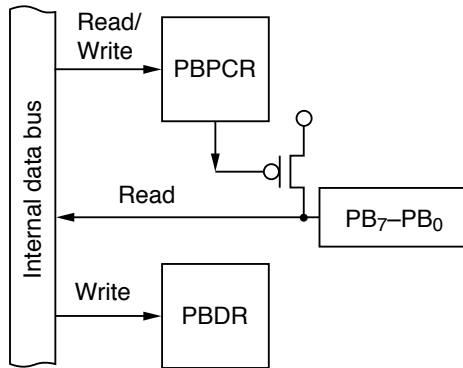

Figure 9-74 Input Port with Built-In Pull-Up Transistors (Mode 7)
(2) Input Port with Internal Pull-Up (All Pins: Mode 7): Figure 9-74 shows a block diagram illustrating the general-purpose input function and built-in input pull-up transistors. Table 9-54 indicates register read/write data. Values written in the port B data register (PBDR) have no effect on general-purpose input lines. When read, PBDR returns the value at the pin. When a bit in the port B pull-up transistor control register (PBPCR) is set to 1, the corresponding PBDR bit always reads 1.